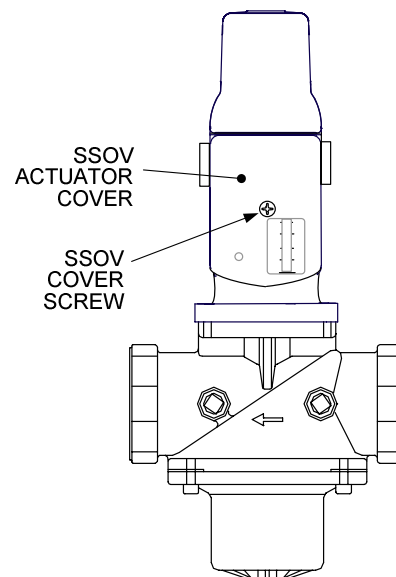

Figure 6.6
2. Remove the Safety Shut-Off Valve (SSOV) cover to access the terminal connections. See Fig. 6.6. For units with IRI gas trains, access the terminals of the downstream SSOV (see drawing SD-A-584 in Appendix F).